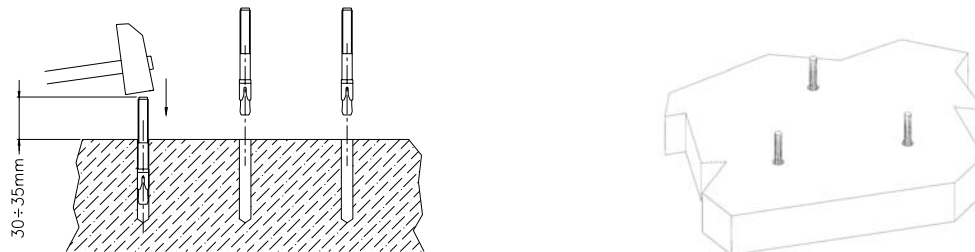

Fig.2
- Fix the plugs leaving them to project from the floor respecting the dimension indicated (fig.2);